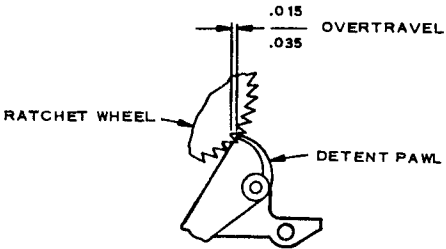

Figure 29. Over-travel Adjustment.
3. Re-adjust Slide Stop Bracket slightly for over-travel as shown in Figure 29.